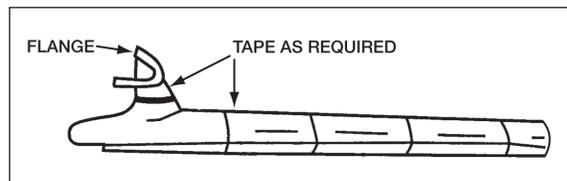

Figure 6
17. Roll up the new AMTROL® bladder and tape as necessary intervals to keep it rolled (Figure 6).